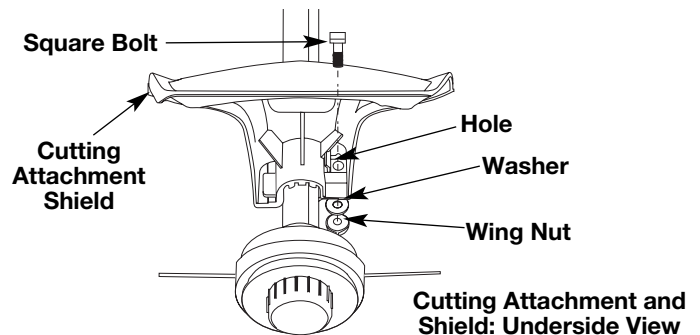

Fig. 4
3. Put the washer on the bolt, then screw the wing nut onto the bolt and tighten. Figure 4 shows the installation process from underneath the unit.